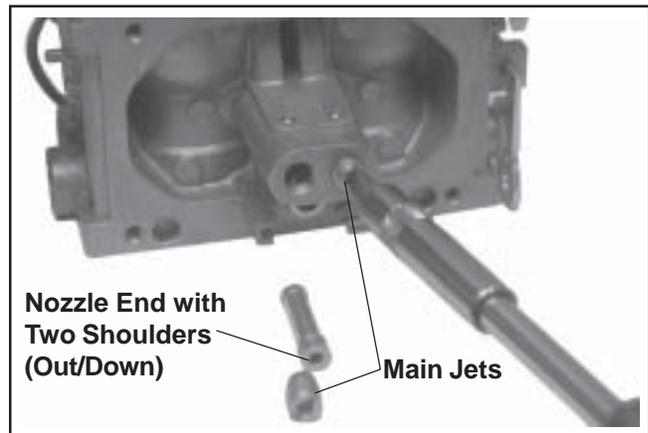

Figure 5-27. Installing Main Nozzles and Main Jets.
- Install the two main nozzles into the towers of the carburetor body. The end of the main nozzles with the two raised shoulders should be out/down (adjacent to the main jets). Make sure the nozzles are completely bottomed. Carefully install the main jets into the towers of the carburetor body on the appropriate side, as identified when removal was performed. See Figure 5-27.